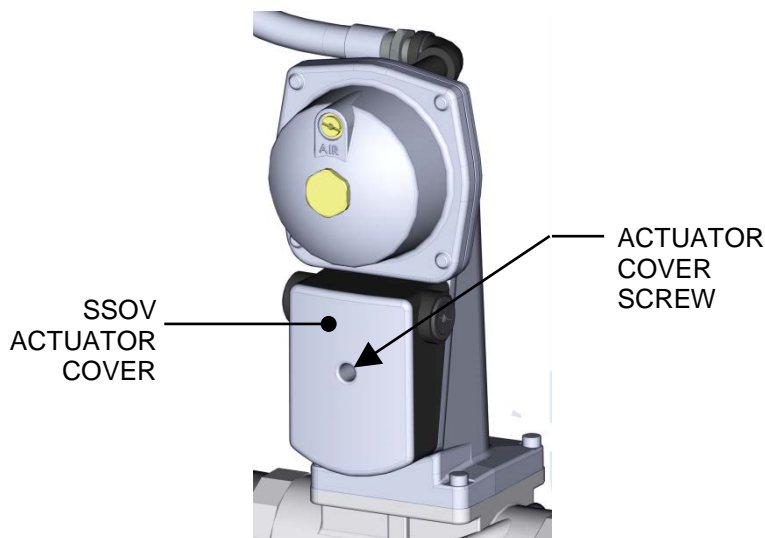

Figure 6-6: Downstream SSOV Actuator Cover Location
4. Remove the cover from the SSOV by loosening the screw shown in Figure 6-6. Lift off the cover to access the terminal wiring connections.